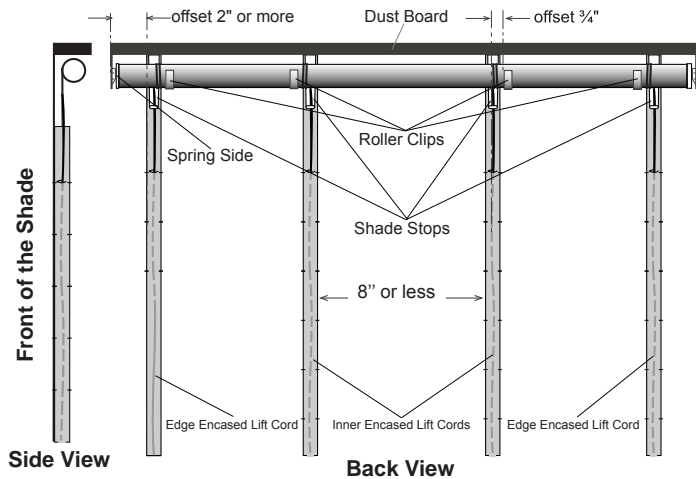
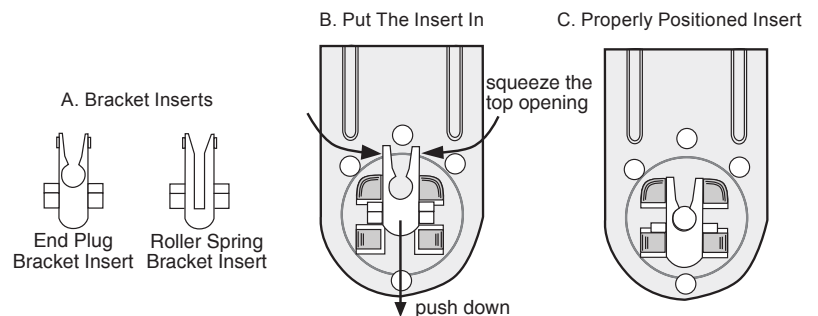

Fig. 1 A Soft Shade Roller Spring System
Fig. 5 Put Brackets Inserts In
The **Soft Shade Roller Spring System** is designed to create an improved soft shade that is control-cord free and eliminates the need for a bead chain or drive cord making the system more child-safe. It manually raises or lowers soft shades by using Lift Bands or Roller-Clips to attach the lift cords to the roller. **The total weight of the shade should be less than 5 lb.** This should be fine for most shades that will fit single width and double width hung windows. Fig.1 shows the back view of an assembled soft shade roller spring system with 4 Roller-Clips on the roller when the shade is all the way down.
Encased Lift Cord Shroud Tape Arrangement (see Fig. 1): The shade can be made with Encased Lift Cord on the edge or well inside the edge of the shade. It is important to consider the Encased Lift Cord location and spacing before you attach the Encased Lift Cord to your shade. **Recent Industry child safety guidelines recommend a 2" offset between the edge of the shade and the edge of the Encased Lift Cord.**
Roller Clip Arrangement (see Fig. 1): The roller clips should be $\frac{3}{4}$ " offset from the lift cords. The roller clips should be mounted to the left and right of the lift cords alternately across all inner lift cords. Otherwise the shade may creep to one side when raised.
Step 5. As shown in Fig. 5, place the roller spring and end plug bracket inserts into the brackets. Squeeze the top of the inserts to pop them into position.
Step 6. Lay the shade totally flat and face down on your work table for front mounted shade as shown in Fig. 1. Position the dustboard at the top of the shade. Ensure the spring insert end of the roller is located on the left side of the shade as shown in Fig. 1. If the fabric is to be mounted to the back of the dustboard, the spring insert needs to be on the right side of the shade. Install the appropriate brackets to the correct location on the dustboard. Be sure the bracket with the end plug and roller spring insert are located on the correct side.
Step 8. Mark the locations of your roller clips. Be sure to offset and alternate the locations of the clips as shown in Fig. 1. Once the clip is attached to the roller, it will not slip or pop off. Put clips at the locations marked on the tube. You may insert a screw driver underneath the clip and lift it slightly for small position adjustment. Lastly, be sure all clips are aligned when you look down the shade roller.
Step 9. Temporarily install your dust board on the wall so that you can access the back side. Insert the roller end plug pin into the end plug side bracket and slide the spring end blade into the Spring Bracket as shown in Fig. 5 and Fig. 1. Let all the lift cords hang down, and turn roller clockwise two full turns so that all the lift cords wrap around the roller at least two full rounds. Make sure all lift cords are hanging down inside the roller close to the shade.